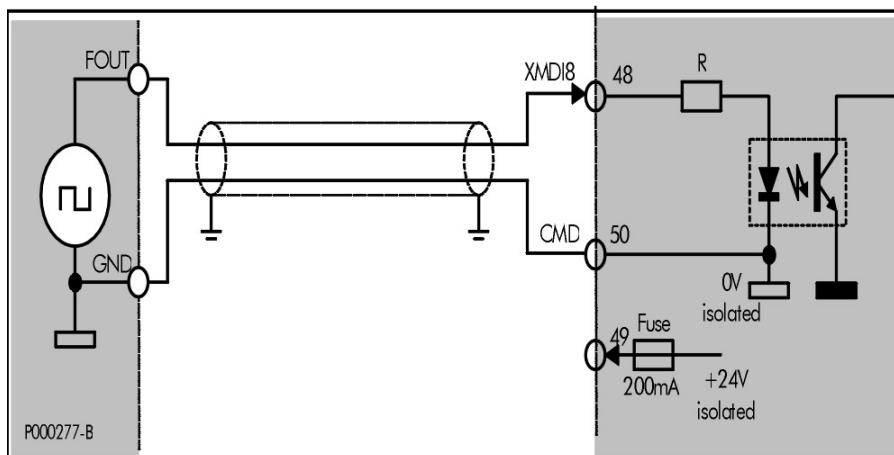

Figure 174: Signal sent from a 24V, Push-pull frequency output
Only encoders described above can be acquired directly by the terminal board of the Sinus Penta; encoder signals shall have a maximum frequency of 155kHz, corresponding to 1024 pulse/rev at 9000 rpm. Input XMDI8 can also acquire a square-wave frequency signal ranging from 10kHz to 100kHz, which is converted into an analog value to be used as a reference. Frequency values corresponding to the min. and max. reference can be set up as parameters. Do not exceed the allowable duty-cycle ratings for the frequency inputs. Signals are sent from a 24V Push-pull output with a reference common to terminal CMD (50), as shown in Figure 174).